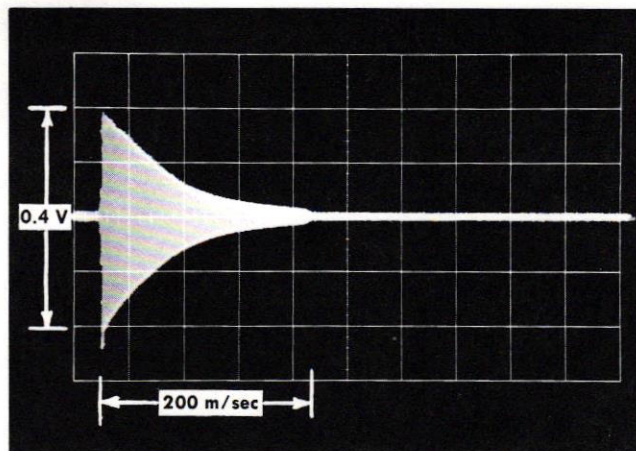

Fig. 5-1. Degauss waveform, coupled through 10  $\Omega$  loop.
- Check the stored display for a four-centimeter (0.4 V) damped waveform lasting approximately 200 milliseconds. See Fig. 5-1.